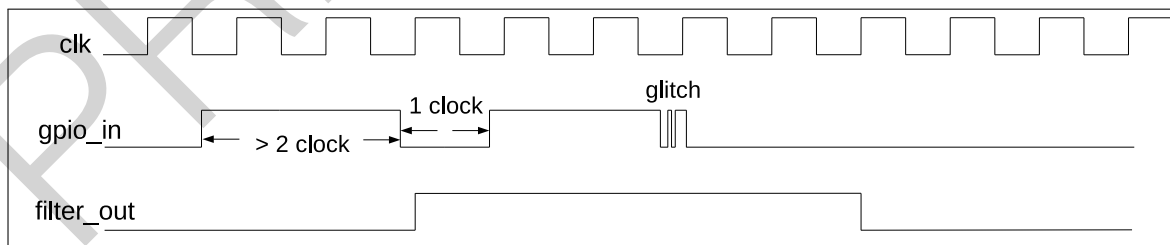

Figure 5-4. Filter Timing of GPIO Input Signals
2. Optionally enable the filter for pin input signals by setting the register `IO_MUX_FILTER_EN`. Only the signals with a valid width of more than two APB clock cycles can be sampled, see Figure 5-4.